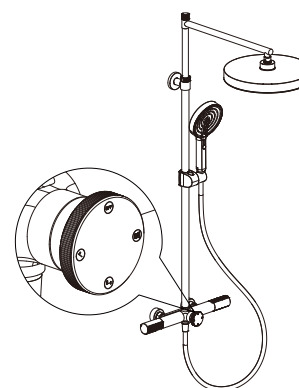

Figure 14A
- ① When the water distribution handwheel indicator "off" (☐) is at the top, the faucet is in the closed state, as shown in Figure 14A;